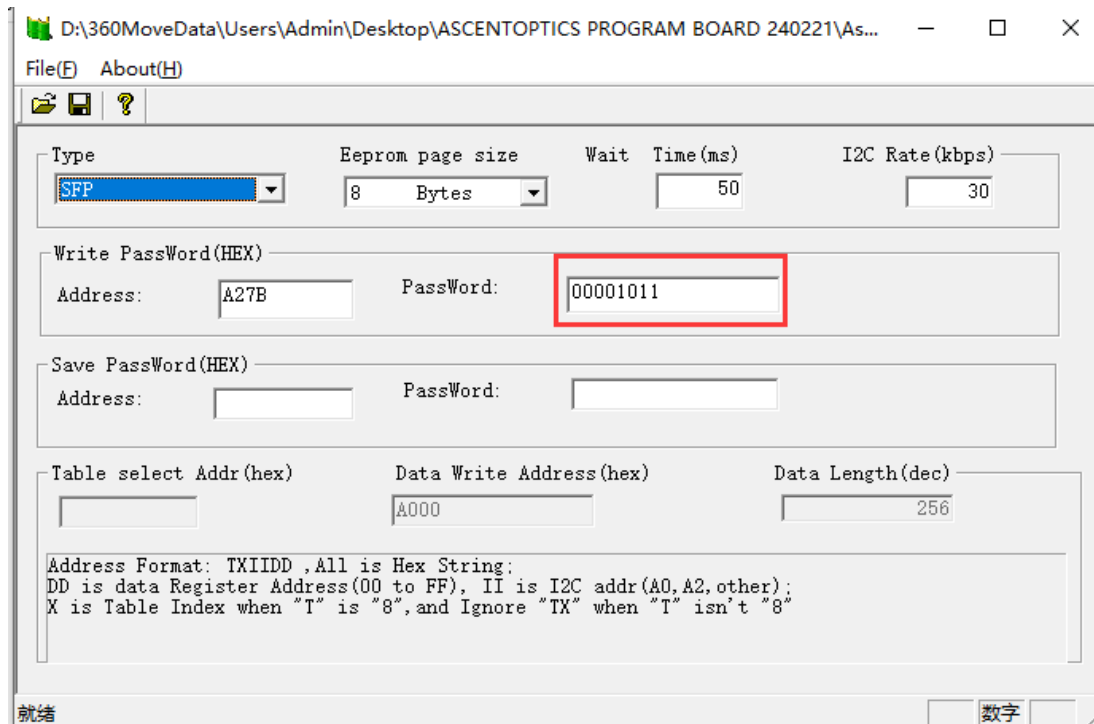

Figure 40
3. Change the PassWord from "00001011" to "12345678" (as shown in Figure 40)